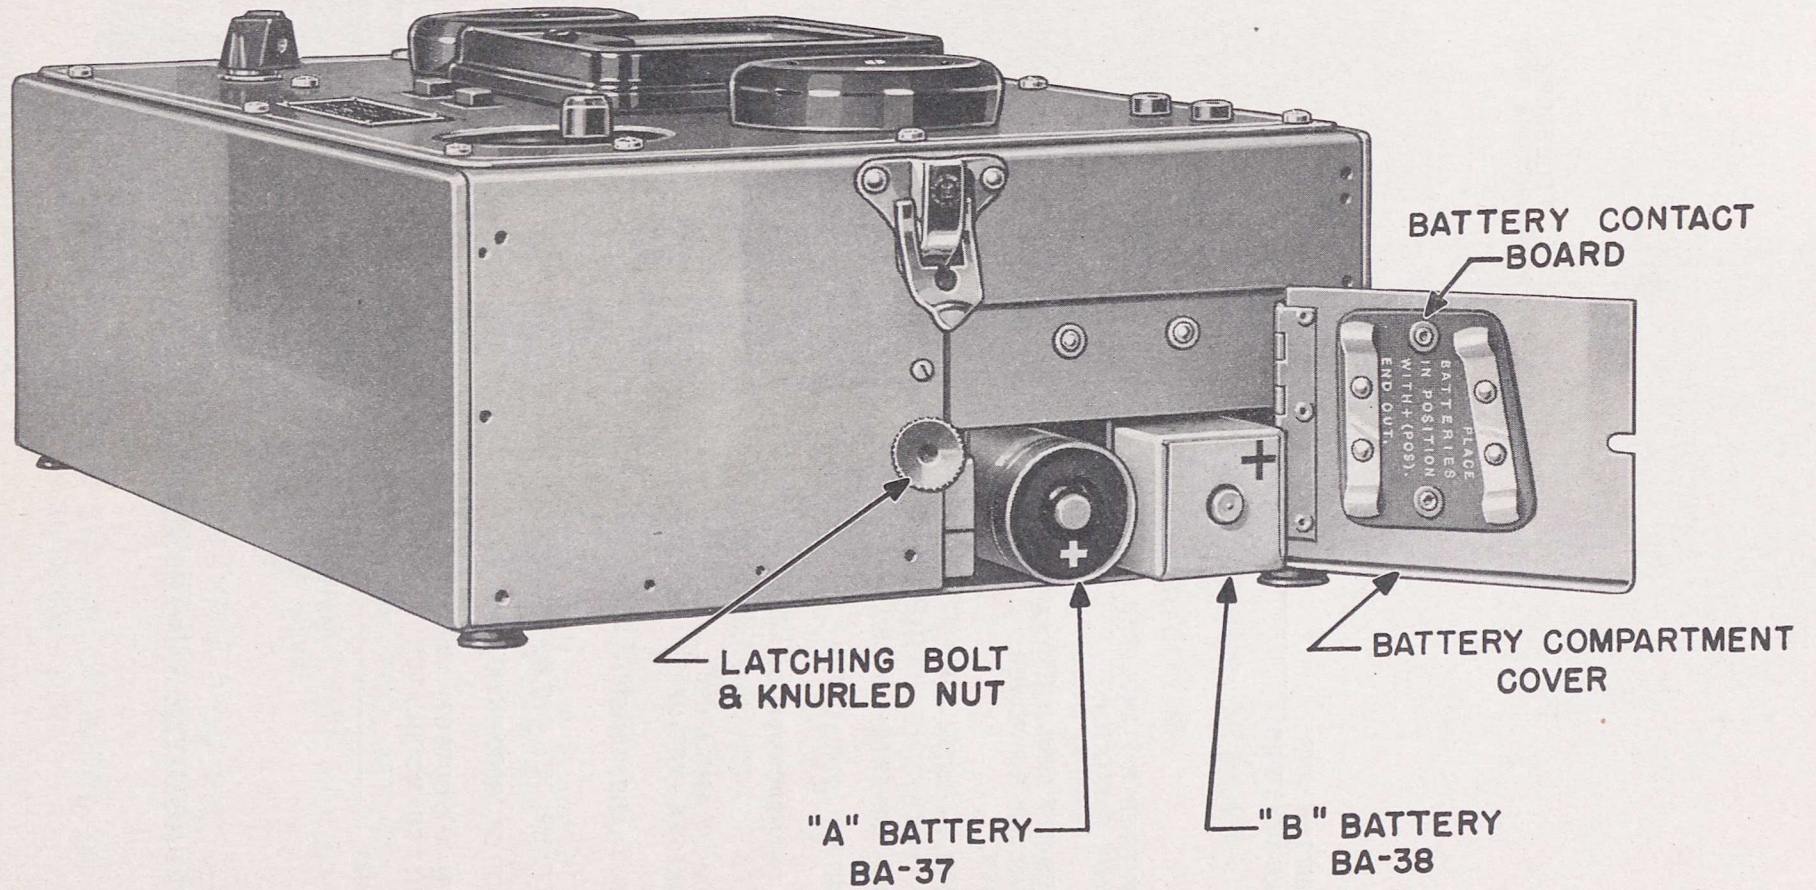

FIG. 14. TEST UNIT I-135-B SHOWING BATTERY COMPARTMENT
a. Use Test Equipment IE-17-B for this test, but be sure that the external heavy duty batteries are disconnected. The radio set chassis with both crystals in place is mounted in the test case, connected to the test unit and then placed in the test stand. The "Press-To-Talk" switch must be in transmit position. The "MASTER SWITCH" of the test unit should be "OFF." Then place batteries BA-37 and BA-38 in the compartment in the test unit. Close and secure the compartment cover. See Fig. 14. "MODULATE TESTER" switch must be "OFF."